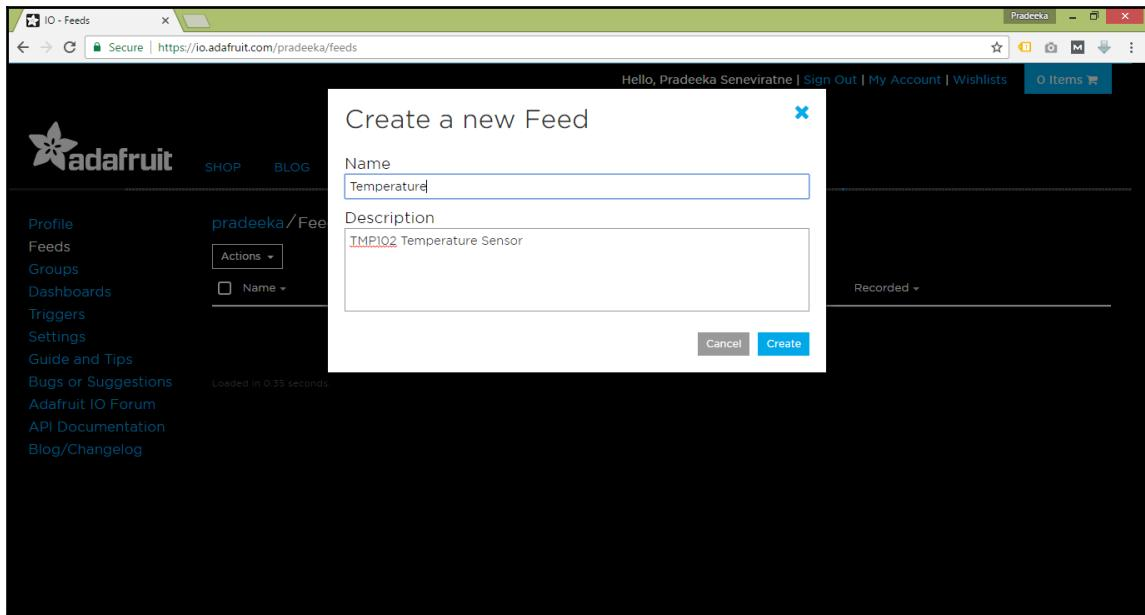

Figure 4-6: Create a new Feed dialog box
3. The **Create a new Feed** dialog box will pop up. Type the following information for each text box and click the **Create** button, as shown in Figure 4-6: